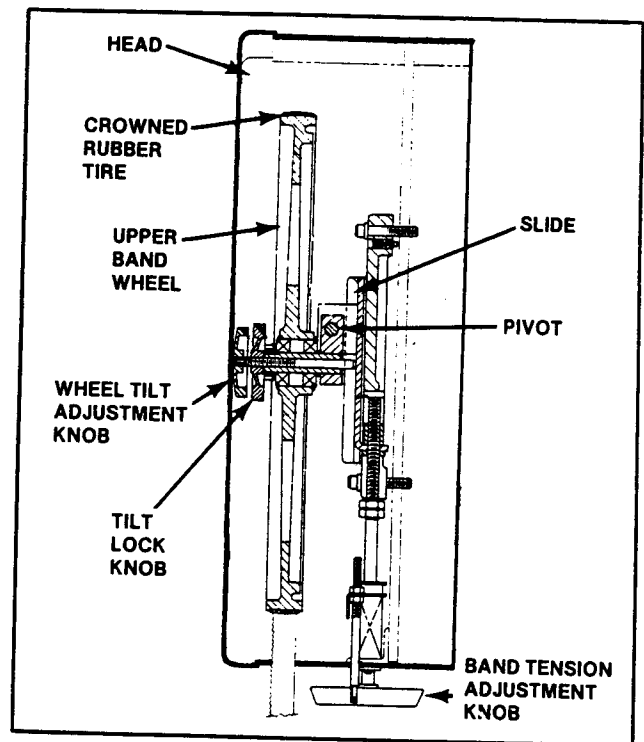

FIG. 12. WHEEL TILT ADJUSTMENT - HEAD SIDE VIEW.
- (1) Open wheel doors. Rotate wheels by hand and observe how band tracks on tires. Adjust wheel tilt if band center does not track along tire centers.
- (2) The wheel tilt adjustment knob and lock are located on upper wheel hub. Loosen lock nut and turn tilt knob until band rides tires correctly. The band's back edge should just touch saw guide back-up bearings. Tighten lock nut when correct tracking has been achieved. See Fig. 12.